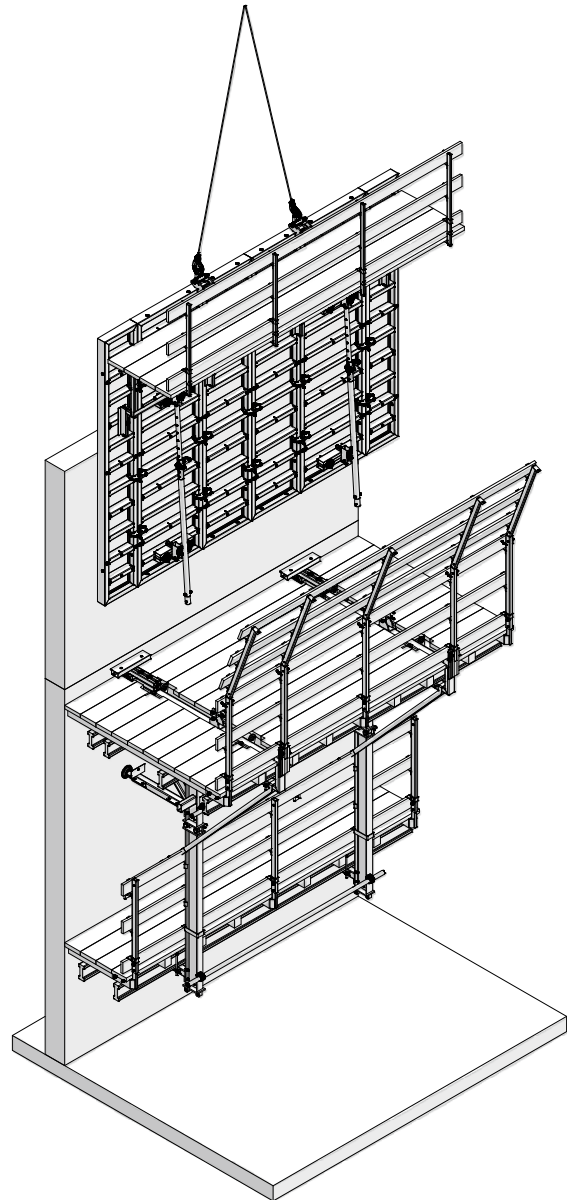

Fig. 36.1 With formwork support KLK
3. Crane-gang the formwork (Fig. 36.1)